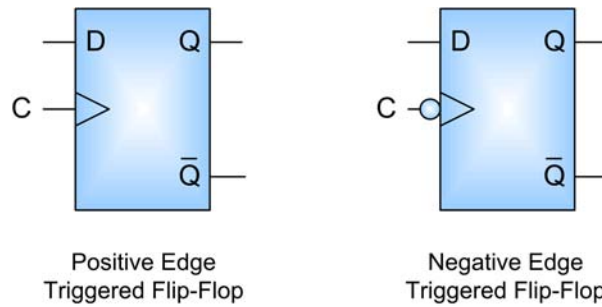

Figure 1: Graphic Symbols of Edge-Triggered Flip-Flops
- Figure 1 shows the standard graphic symbols for positive and negative edge triggered Flip-Flops.